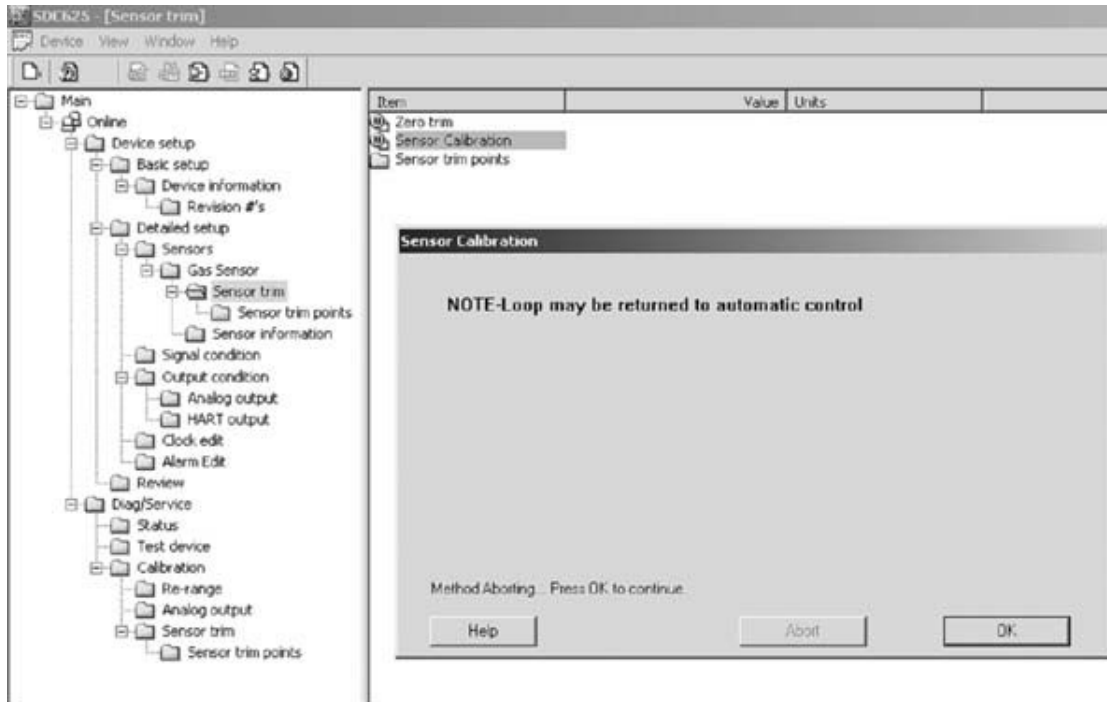

Fig. 47 Loop control reminder message
After the 30-second countdown screen (or the selection confirmation screen for an Oxygen sensor), the device should send back a status message indicating that the device is attempting to adjust the internal calibration. The user is instructed to apply Zero gas (or room air) at this time. The device waits for a stable reading to occur and then saves the zero calibration data automatically. The user can abort the process at any time by selecting the ABORT button. See Fig. 47 for a view of this screen.
After the 30-second Span initialization, a Span adjustment screen displays and continually updates with the gas (PV) reading, units and type information. Once the device detects a stable reading, the data is stored automatically and the user is notified of the completion status. See Fig. 47 for a sample view of the Span adjustment screen. The user can abort the procedure at any time and the prior calibration data is restored.